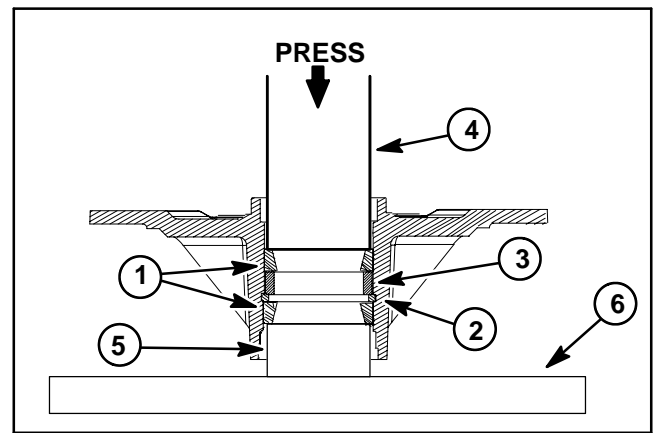

Figure 7
3. Using an arbor press, push the bearing cups into the top and bottom of the spindle housing. The top bearing cup must contact the outer bearing spacer previously installed, and the bottom bearing cup must contact the large snap ring. Make sure that the assembly is correct by supporting the first bearing cup and pressing the second cup against it (Fig. 7).